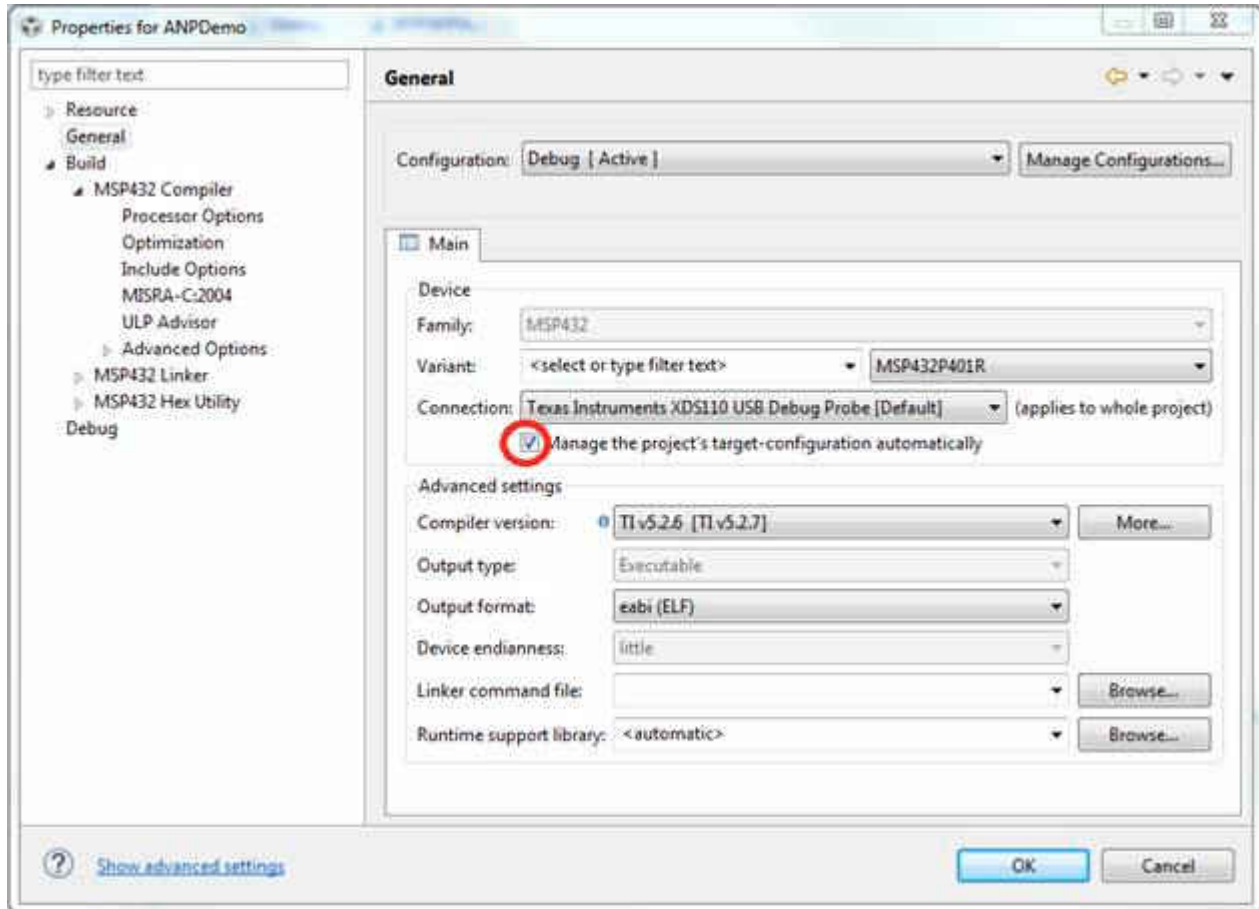

Figure 6-2. Project Properties / General
5. Open *Project* → *Properties* → *General*, and ensure that the “Manage the project’s target-configuration automatically” checkbox is set. See Figure 6-2.